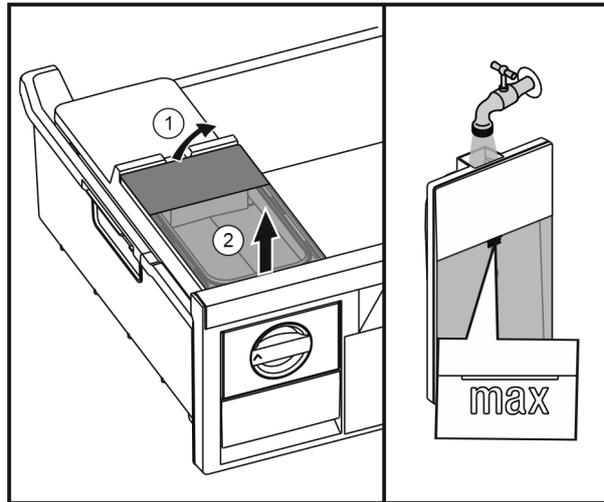

Fig. 38
- ▶ Lift up the water tank at the rear Fig. 38 (1) and remove to the top Fig. 38 (2).